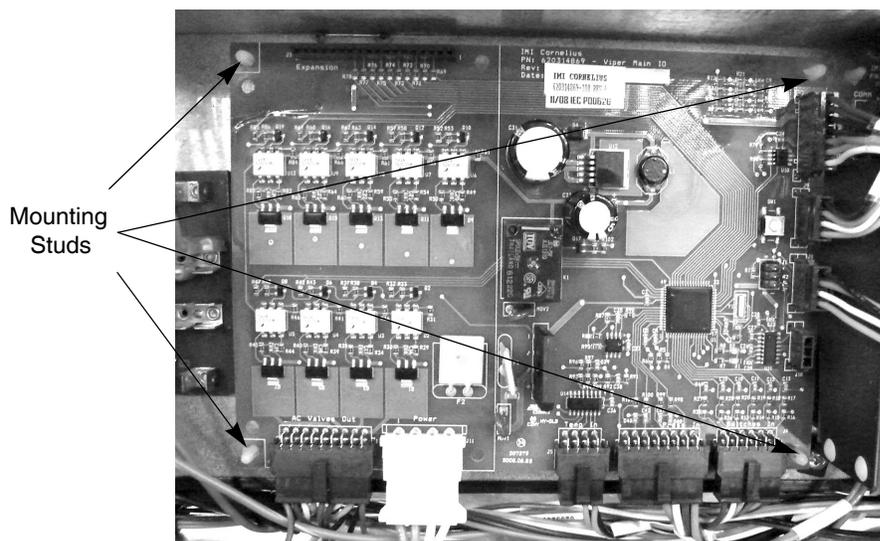

Figure 56. View of Control Board in E-Box
The control board is located in the E-Box. It is mounted to the panel on four (4) plastic mounting studs, shown in Figure 56.
The motor board is located in the E-Box, to the right of the control board. It is mounted to the panel on three (3) plastic mounting studs and a threaded standoff, shown in Figure 56.